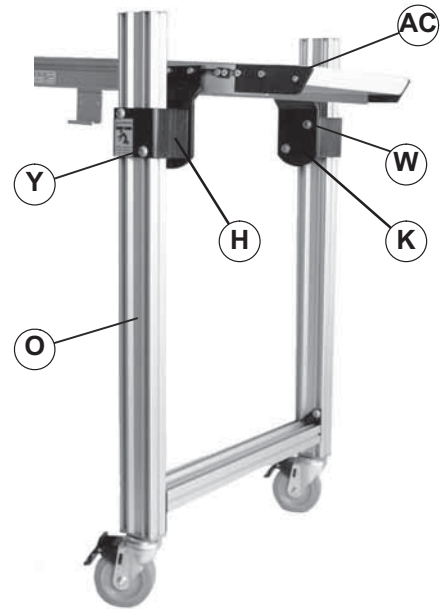

Figure 13
1. Support conveyor section (Figure 13, item AC).
2. Loosen two flange socket head screws (W) on each pivot bracket (K).
3. Loosen two button head screws (Y) on each leg support (H).
4. Slide both leg supports (H) up or down on stand legs (O) to the required height. If necessary, adjust height of each leg support until conveyor is level from side to side.
Failure to secure screws (Figure 13, item Y) may cause conveyor sections to drop down causing severe injury. TIGHTEN SCREWS (Y) AFTER ADJUSTMENT.
5. Tighten four button head screws (Y) to 17 ft-lb (22.5 N-m).
6. Tighten four flange socket head screws (W) to 24 ft-lb (33 N-m).